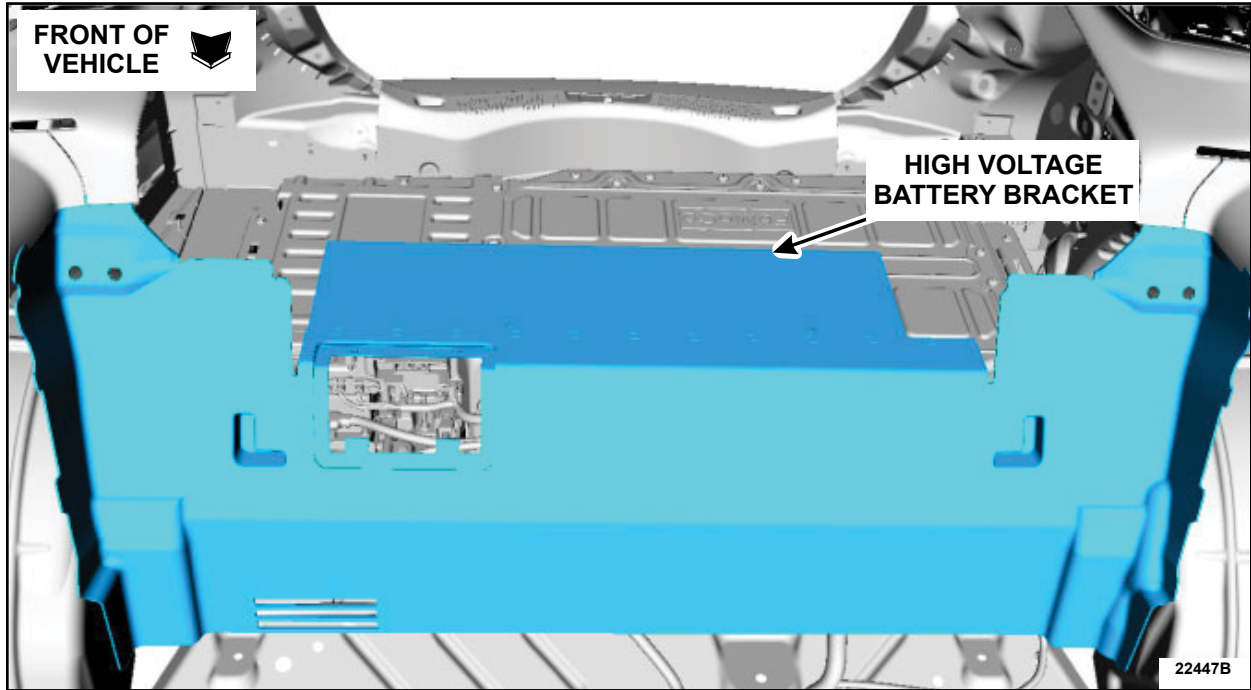

FIGURE 21
23. Install the high voltage battery bracket. See Figure 21.